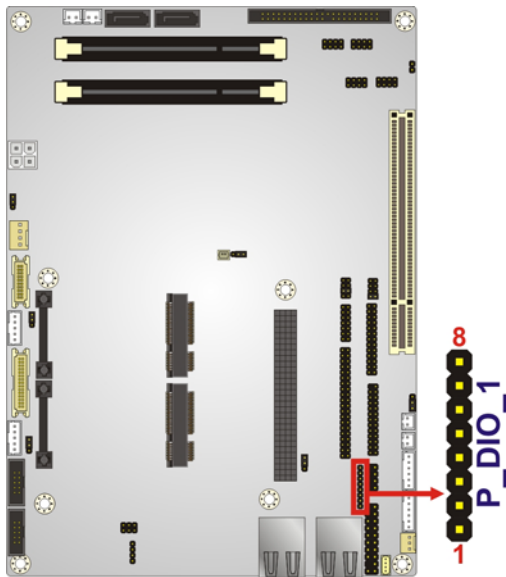

Figure 3-8: Programming Port Location
- CN Location:** See **Figure 3-8**